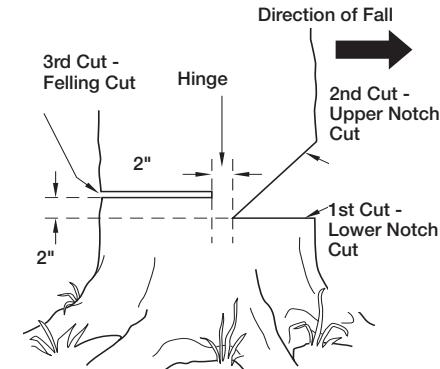

Figure 12 - Felling A Tree
A properly placed felling notch will determine direction tree will fall. Place felling notch on side of tree in direction you want tree to fall (see Figure 12). Follow directions below to create a felling notch.
1. Make lower notch cut as close to ground as possible. Hold saw so guide bar is horizontal. Cut 1/3 the diameter of tree trunk (see Figure 12). Note: Always make this horizontal lower notch cut first. If you make this cut second, tree can pinch chain or guide bar.
1. Make felling cut two inches higher than lower notch cut and on opposite side of tree (see Figure 12). Keep felling cut parallel to lower notch cut.
⚠ WARNING: Do not cut all the way through tree. Leave about two inches of tree diameter uncut directly behind felling notch (see Figure 12). This uncut portion acts as a hinge. The hinge helps keep tree from twisting and falling in wrong direction.